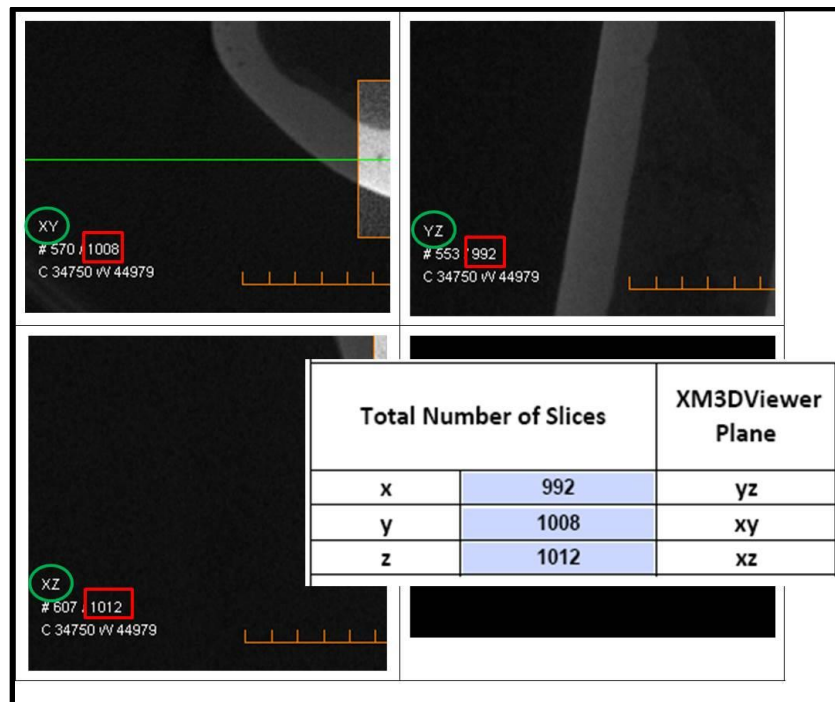

Figure 7: The total number of slices for each direction can be found in the lower left hand corner of their respective viewing panes.
- b. The total number of slices is found from the XM3DViewer. The respective planes need to be checked for the individual axes as shown in Figure 7.